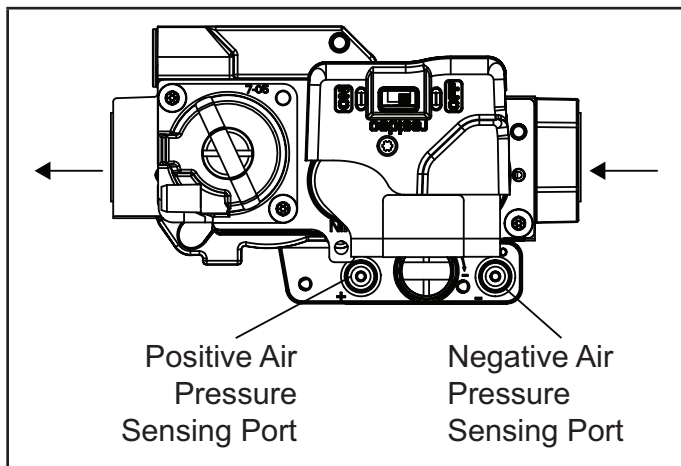

FIGURE 9
- 3 - Slide the gas valve switch to the “ON” position (see FIGURE 9).
- 2 - Slide the gas valve switch to the “OFF” position (see FIGURE 9).
- 1 - Slide the gas valve switch to the “OFF” position (see FIGURE 9).